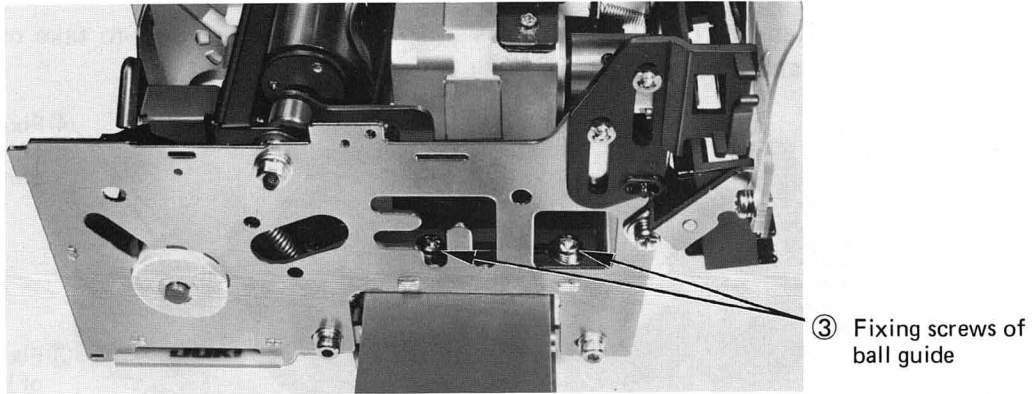

Fig. 5.25
Step 3. Loosen two fixing screws ③ of the right ball guide to remove the selection & hammer unit. (Fig. 5.25)